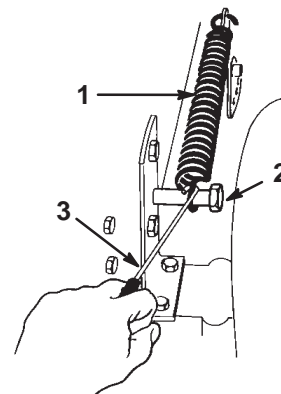

Figure 40
19. Hook the height-of-cut lift assist spring onto the retaining bolt (Fig. 40) using the spring tool provided with the tractor.